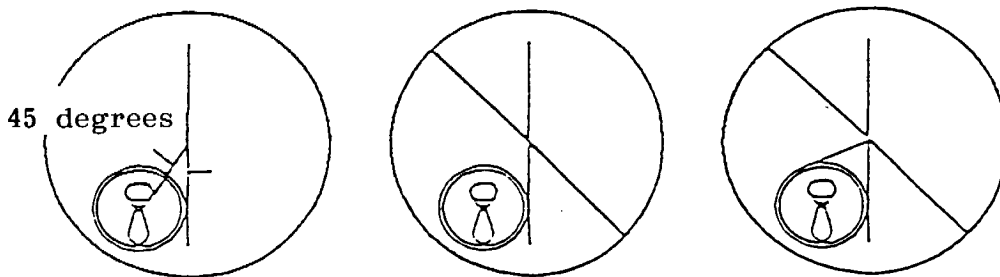

Figure 2
3. If the shim is to be installed on the right side of a column bend the spring towards the center of the column at approximately 45 degrees. See figure 2.